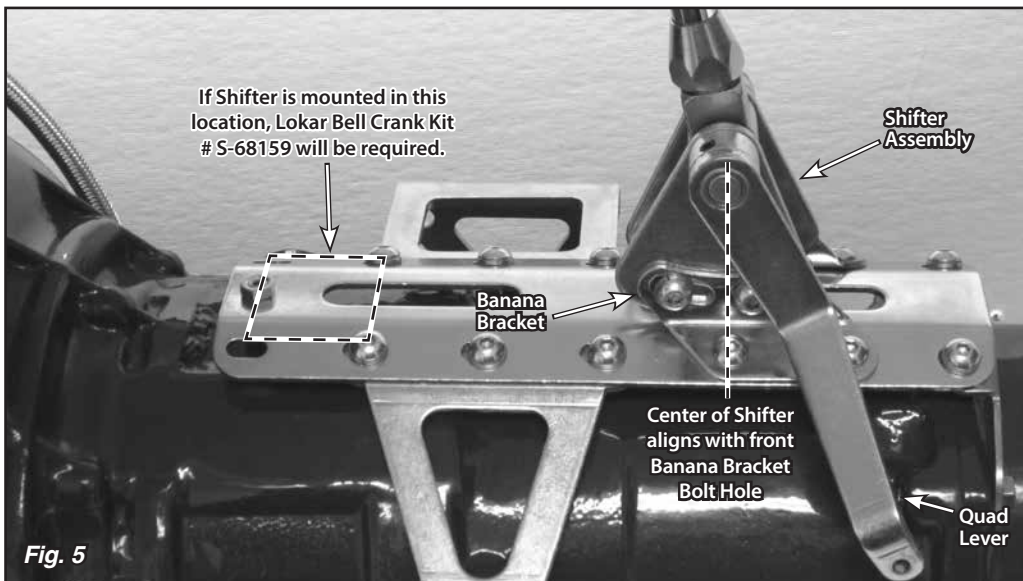

Fig. 5
**Step 8: (Continued)** Transfer that measurement to the transmission (or to the engine/transmission assembly if the engine is not installed in the vehicle). Mark that location on the shifter's main plate. The holes in the main plate that are closest to your mark are where the **FRONT** banana bracket bolts will need to be installed. **Fig. 5**
Any shifter mounting holes that do not line up with the side or rear mounting bracket bolts must use the provided 5/16"-24 x 1/2" button head bolts and nylock nuts (**NO lock washers**). Make sure the shifter assembly is mounted using all four bolt holes. **Do not use any other length bolts. Fig. 5**
**NOTE:** If mounting the shifter assembly all the way forward using the four bolt holes at the very front of the main plate, a **Bell Crank Kit (Lokar Part No. S-68159, sold separately)** will be required. **Fig. 5**